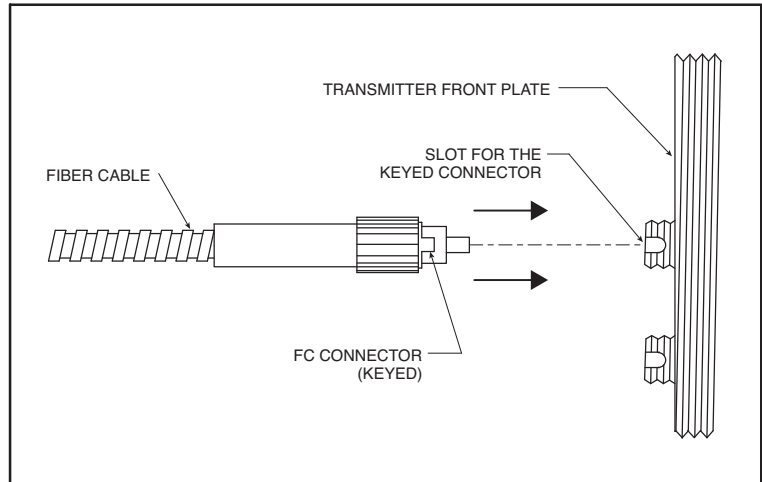

Figure 8. Fiber Cable Connection to the Transmitter
Figure 8 shows the Fiber Cable connection (keyed) to the transmitter
- Connect the fiber optic cable to the transmitter front plate. Figure 8 shows the fiber FC connector (keyed) to the mating transmitter connector. There are two ports for connections. The temperature port is for measuring temperature. The laser sighting port is for aligning & positioning the fiber optic lens probe.